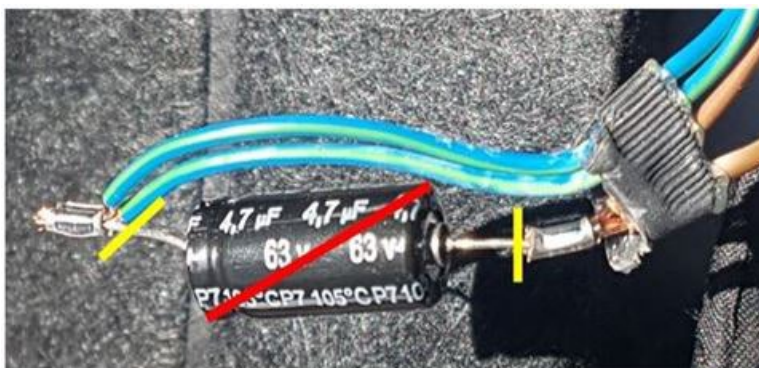

Figure 2: Suppression capacitor C24.
- At the yellow highlighted area, cut and remove the capacitor from the wiring harness (Figure 2).